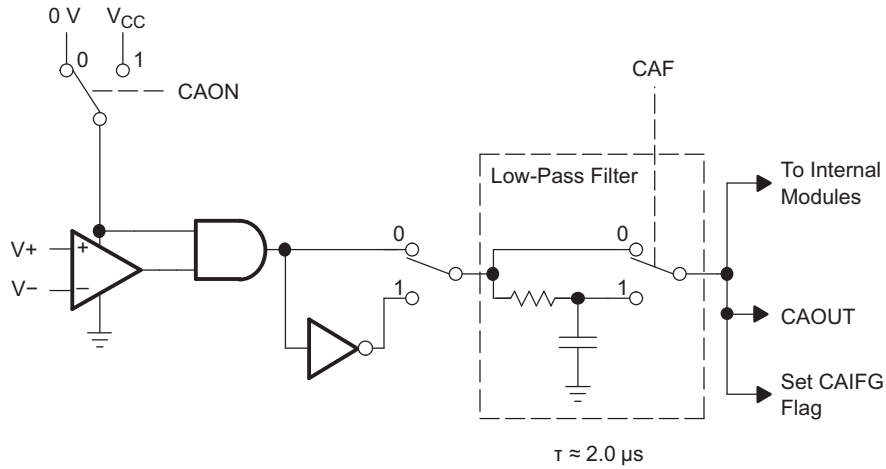
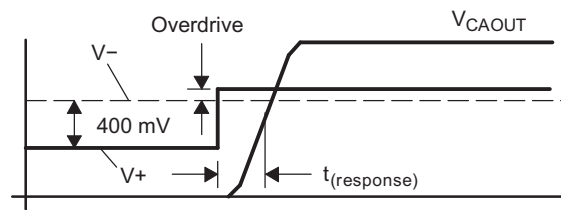

Figure 24. Comparator\_A+ Module Block Diagram
Figure 25. Overdrive Definition
| t (response)            | Response time(low-high and high-low)                    | T A = 25°C, Overdrive 10 mV,Without filter: CAF = 0 (3)(see <a href="#">Figure 24</a> and <a href="#">Figure 25</a> ) | 2.2 V           | 80   | 165  | 300                 | ns   |
|                                    |   | T A = 25°C, Overdrive 10 mV,With filter: CAF = 1 (3)(see <a href="#">Figure 24</a> and <a href="#">Figure 25</a> )    | 2.2 V           | 1.4  | 1.9  | 2.8                 | μs   |